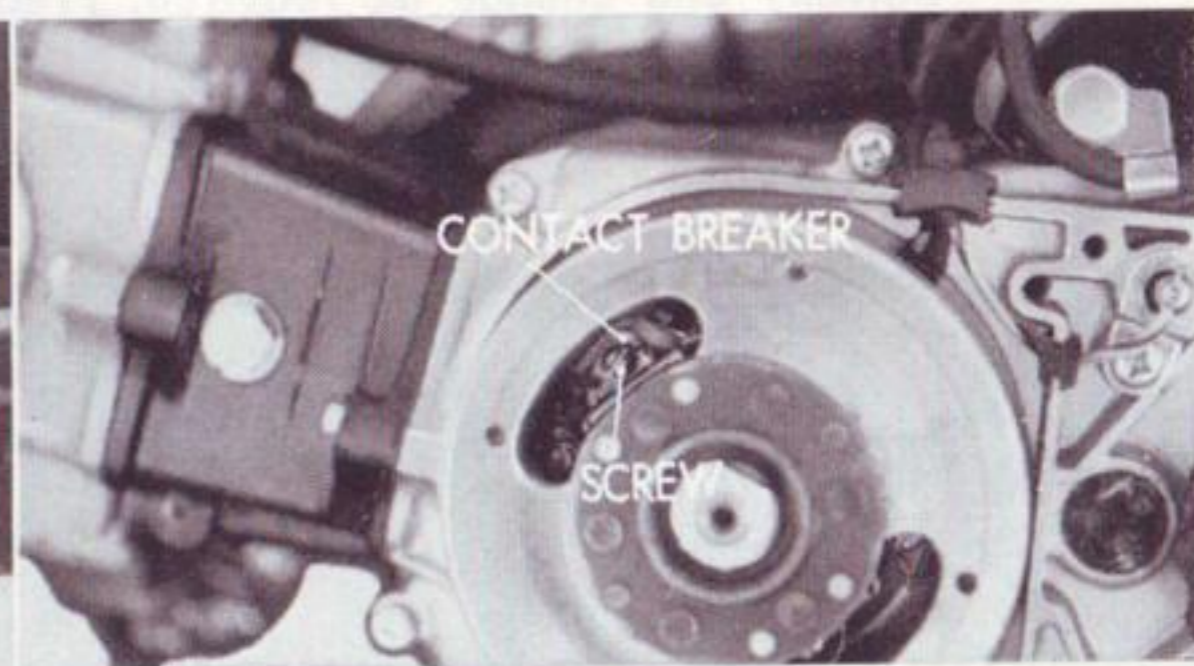

Fig. 25
2. To adjust the ignition timing, loosen screw and move the contact breaker with a screw driver. (Fig. 25)